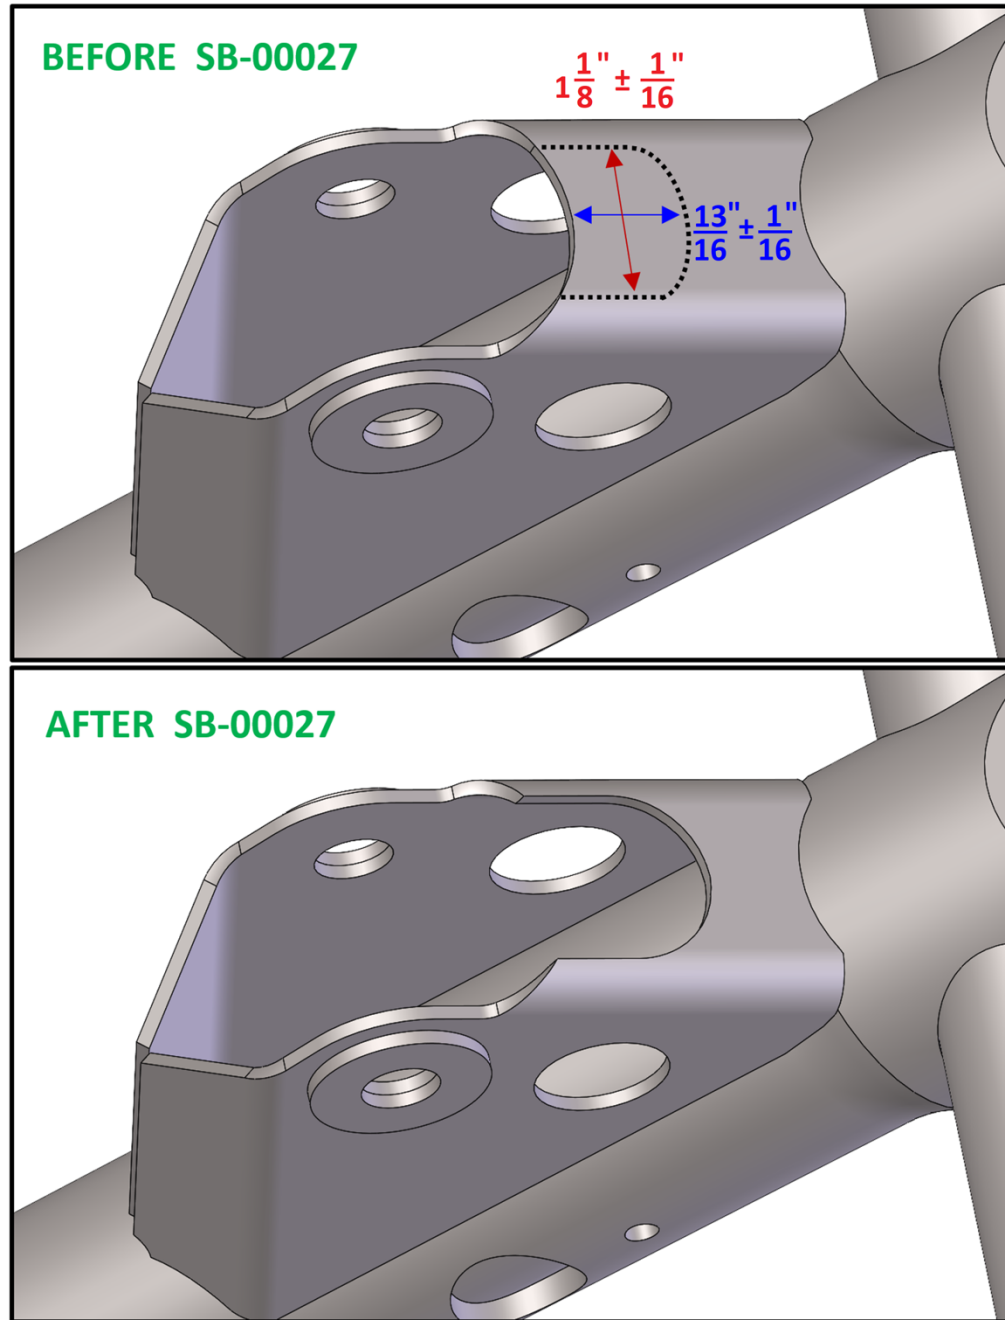

FIGURE 3: ENLARGING THE OPENING ON U-01406.
Date Released: April 2, 2021 (Rev 1 - Updated Figure 3, notch width matches new factory part dimension – see notes)
Step 5: Cut and/or grind material from the aft end of the opening on the Nose Gear Leg where the Nose Gear Link is attached. Sand the surface of the cut until it is smooth. Refer to Figure 3.